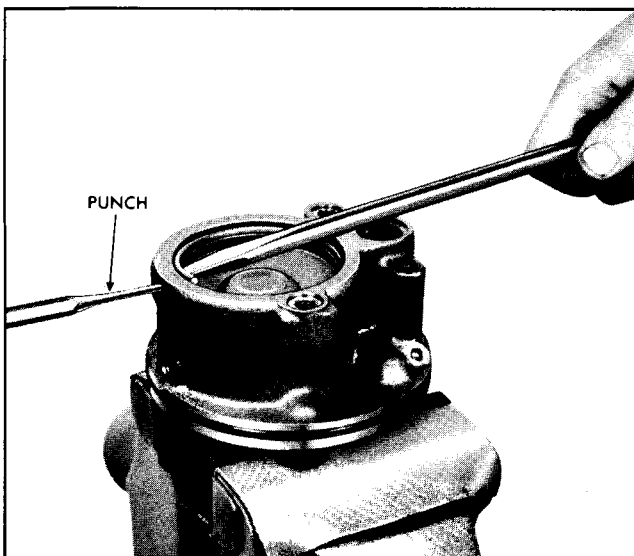

Fig. 9-110 Removing Retaining Ring
5. Remove end plate retaining ring. Push end plate retaining ring out of groove, using a punch through 1/8" diameter hole in pump housing (Fig. 9-110) and remove with screwdriver. End of retaining ring should be next to hole to ease removal.